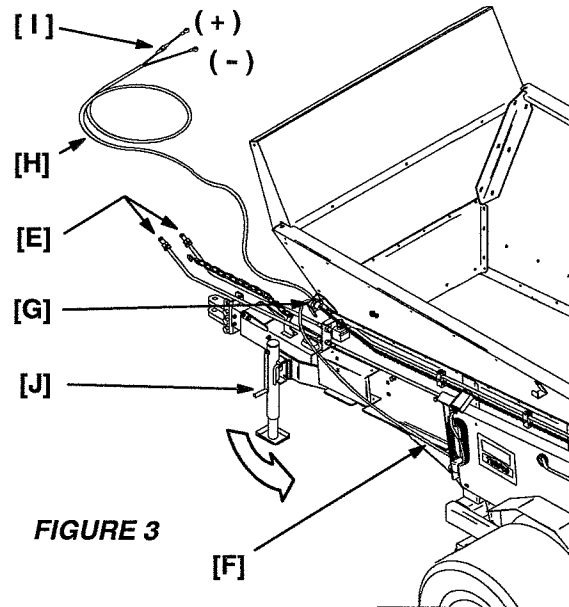

FIGURE 3
STEP 5. (See Figure 3) Attach the CR-10 hydraulic hoses [E] to the tractor. Ensure that the hoses are routed to allow the CR-10 Unit and tractor to turn without binding the hoses. Ensure that hydraulic pressure from the tractor has been shut off and the tractor engine has been shut off before attempting to connect the hoses.
STEP 6. (See Figure 3) Plug the CR-10 hand held On/Off control box cable [F] into the plug-in receptacle [G] (at lower left front corner of hopper).
STEP 7. (See Figure 3) Plug the CR-10 power supply cable [H] into the connector on the hand held On/Off control box cable (located on the cable, near the end plugged into the receptacle).
STEP 8. (See Figure 3) Attach the other end of the electrical power cable [H] to the tractor battery. Ensure that the cable is long enough and is routed to allow the CR-10 Unit and tractor to turn without binding the cable.
STEP 9. (See Figure 3) Check the fuse in the fuse holder [I] on the CR-10 power supply cable. The fuse should be a 6 AMP, 3AG-32V.
STEP 10. (See Figure 3) Raise the front jackstand [J]. Rotate and lock into the raised position.